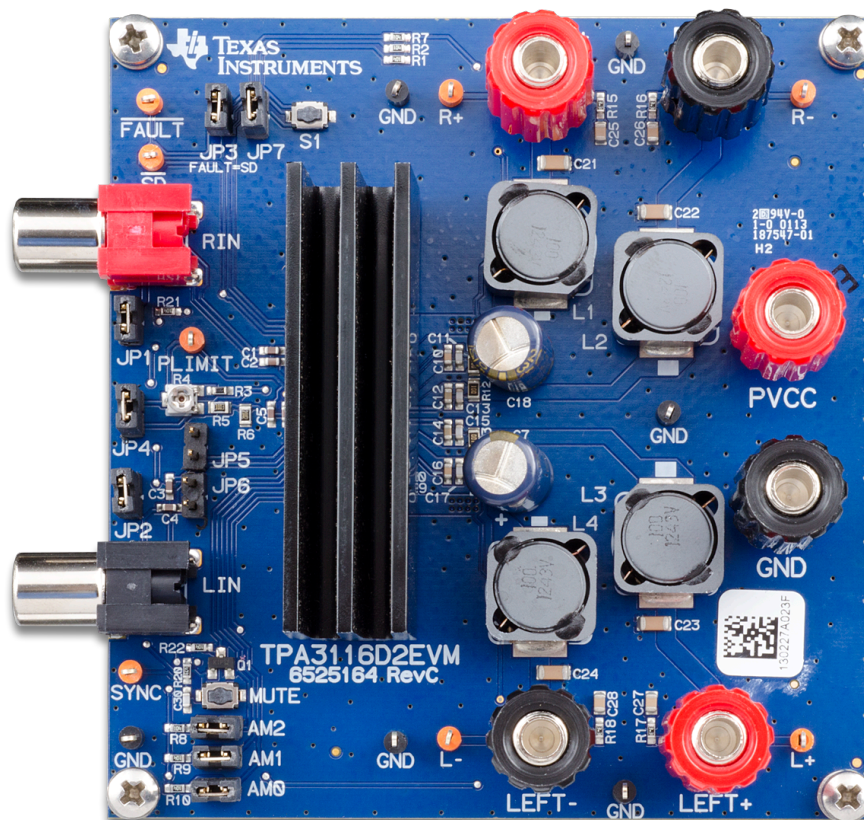

Figure 1. TPA3116D2EVM Evaluation Module
- One TPA3116D2EVM board using one TPA3116D2 (Figure 1)